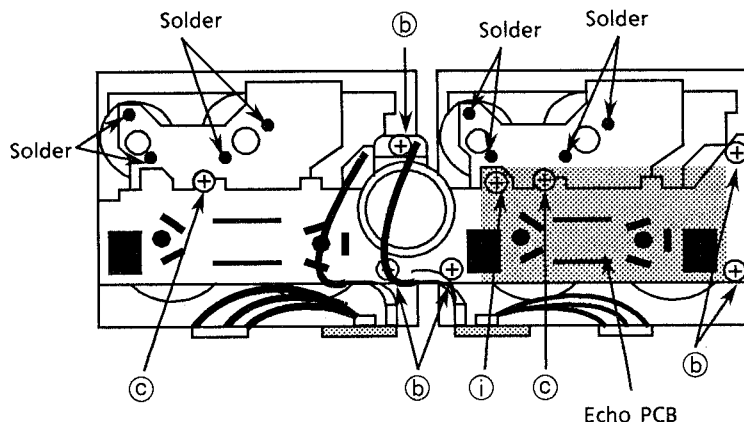

Fig 18
3. Remove the screw ① to remove the echo PCB (Fig 18).
4. Remove the 7 screws ②, ③ fixing the bracket (Fig 18).
3. Remove the 7 screws ②, ③ fixing the bracket (Fig 18).
5. Remove the 4 screws ④ fixing the reel and cam motor.
3. Remove the 7 screws (b, c) and the bracket (Fig 18).